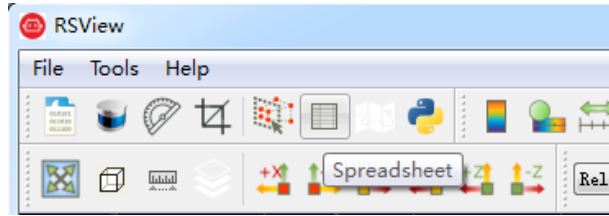

Figure A-16 RSVIEW Spreadsheet
5. In order to inspect partial relevant point cloud data from a closer aspect, please scrub to an interested frame and click the **Spreadsheet** button (Fig A-16). A data table will be displayed on the right side. It displays all data points in the frame.